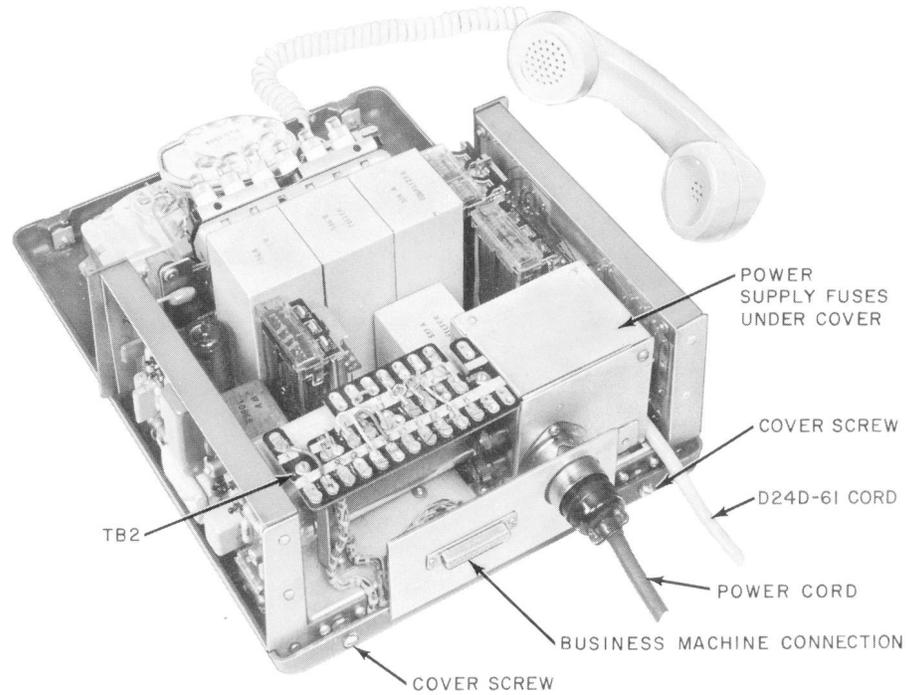

Fig. 2—Data Set 202A, Rear View
2.04 A check of power supply voltages and defective fuses should be made before making complete replacement of data set. Voltage measurements can be made at the fuse block as shown in Fig. 2 and 3.
Any time strapping changes are made or fuses replaced, disconnect power cord of the data set. The data set has three fuses located under the power supply cover shown in Fig. 2 and 3.